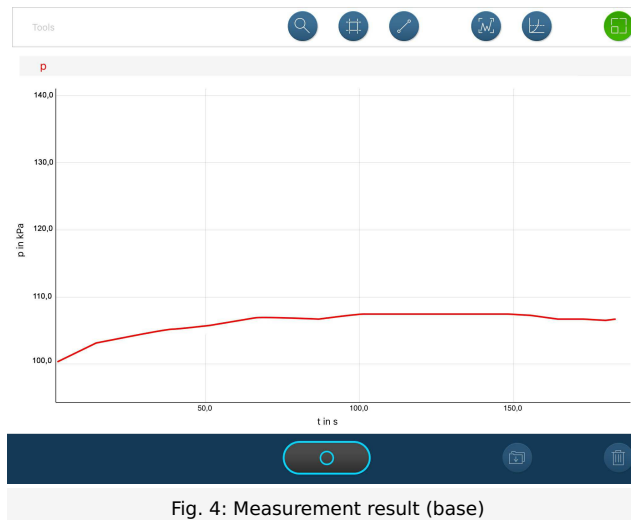

Fig. 4: Measurement result (base)
- Experiment 2a:** When sodium hydroxide is added, the curve rises more slowly compared to the curve under normal conditions (Fig. 4).